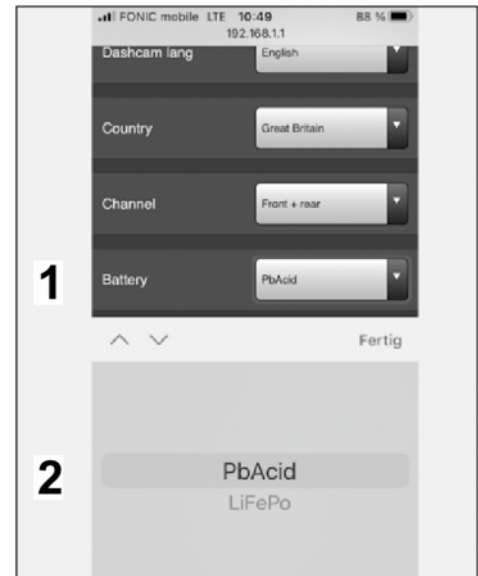

Figure 30
5.3.4 Select battery type (⇒ *Figure 30*)